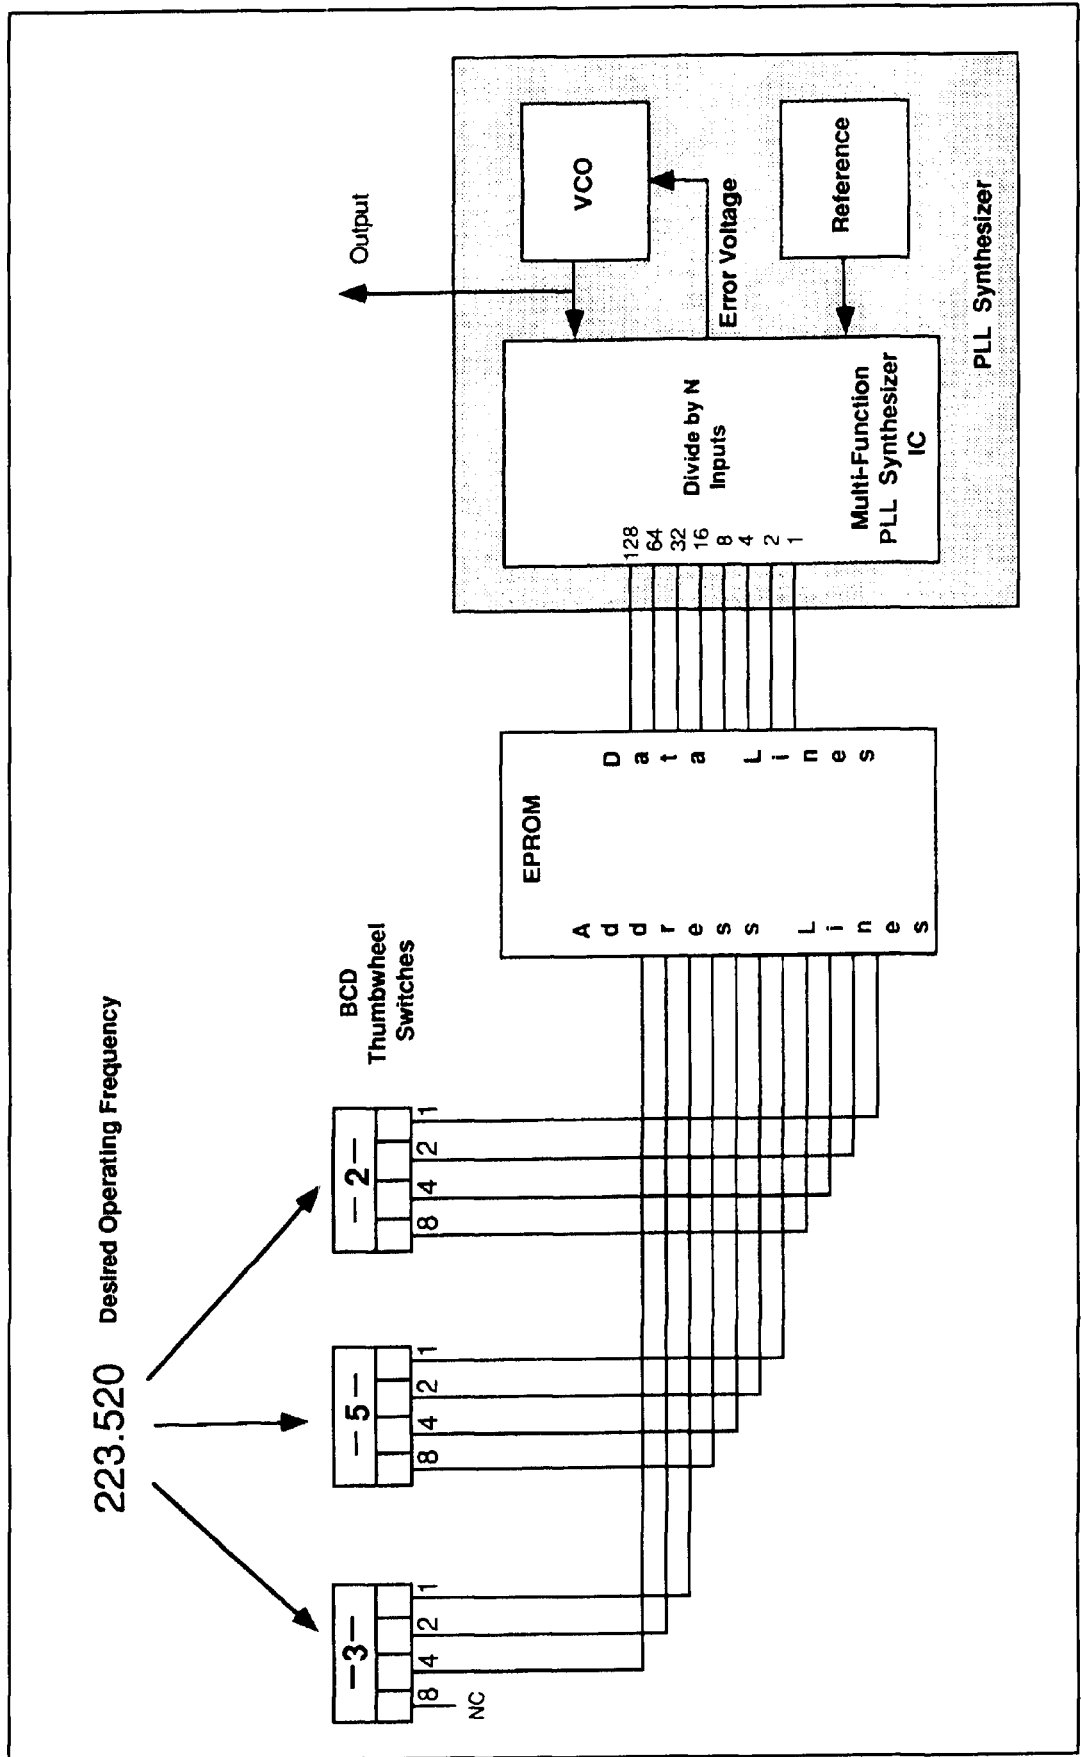

Figure 1. Simplified parallel interface functional diagram.
**Figure 1** is a functional diagram showing how the BCD thumbwheel switch/EPROM works to simplify the interface to a parallel input synthesizer. Separate BCD switches are used for each significant digit in the desired